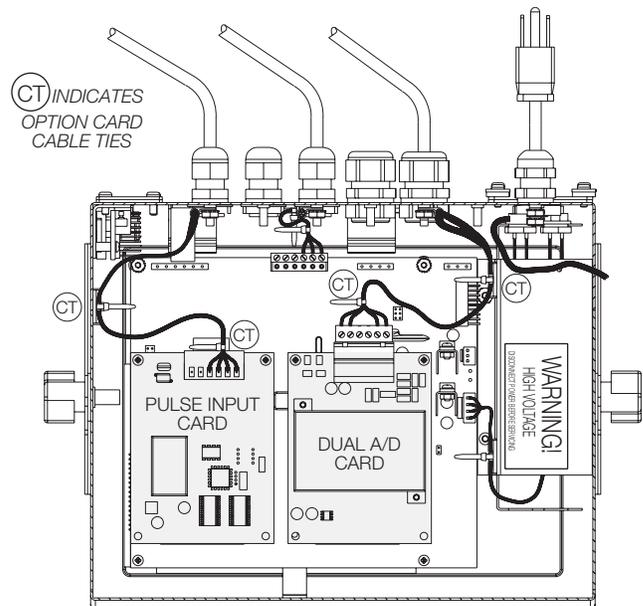

Figure 2-7. Installed Option Cards, Showing Secured Cables
4. Make connections to the option card as required. Use cable ties to secure loose cables inside the enclosure as shown in Figure 2-7. When installation is complete, reassemble the enclosure as described in Section 2.6 on page 13.